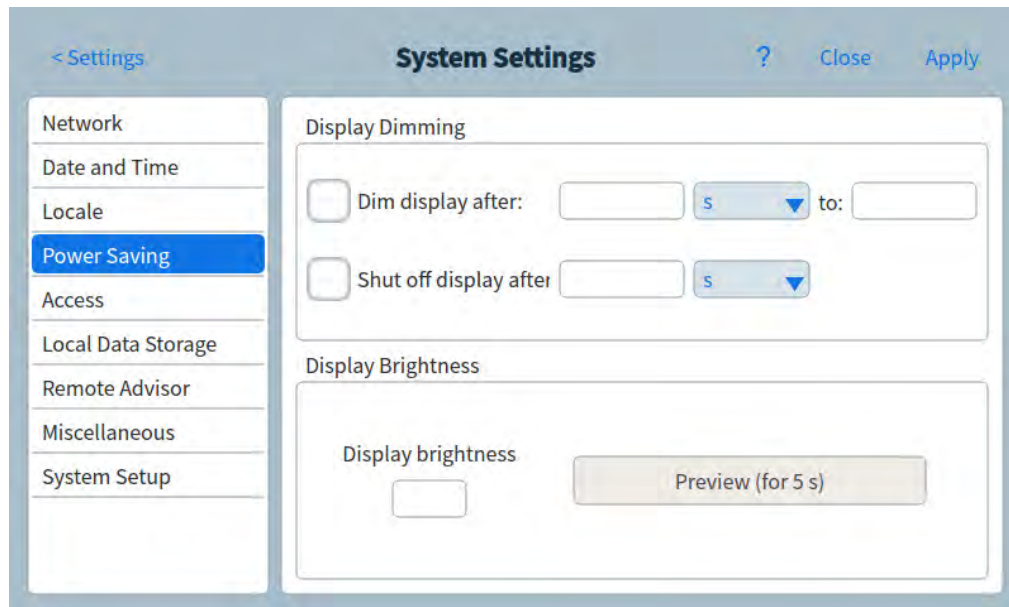

Figure 47. Power Saving page
- 1 From the System Settings page, select the **Power Saving** page selection button. The Power Saving page appears. See Figure 47.